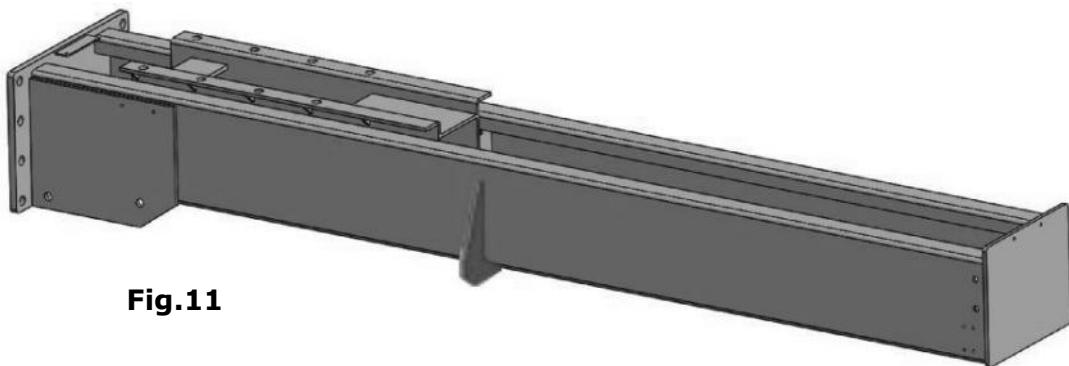

Fig.11
1. Lay the column flat to the ground. (See Fig.11)